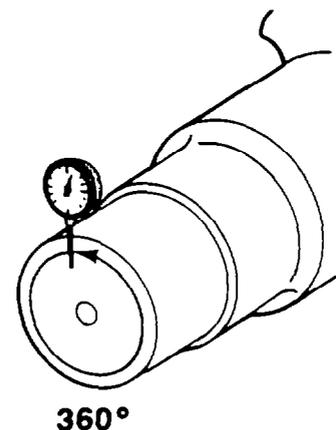

Figure 32 — Vibration Damper Mounting Flange Runout
- ax. Move the dial indicator to the front of the crankshaft with the plunger on the outer most point of the circumference (see Fig. 32). Zero the dial indicator, then rotate the crankshaft one complete revolution, read the maximum movement of the dial indicator to obtain the squareness of the crankshaft. Where the damper mounting surface is not perpendicular to the crankshaft axis within 0-0.05 mm (0-0.002 in.), the crankshaft is unserviceable in this condition, it may be possible to correct the fault, providing the crankshaft length remains 1298.73-1300.00 mm (51.131-51.181 in.).